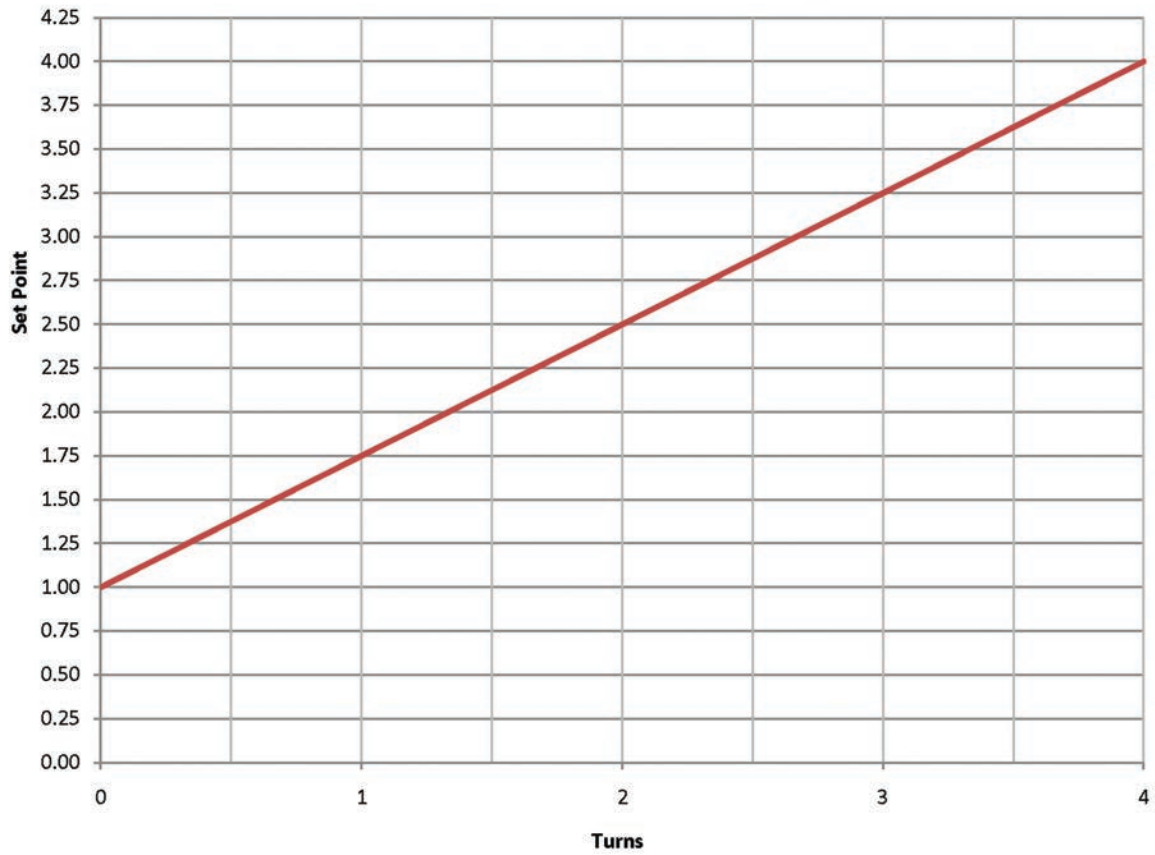

Figure 2
The maximum allowable number of turns is four (4), covering a set point range of **1.0 to 4.0" wc**, as shown in **Figure 2**.